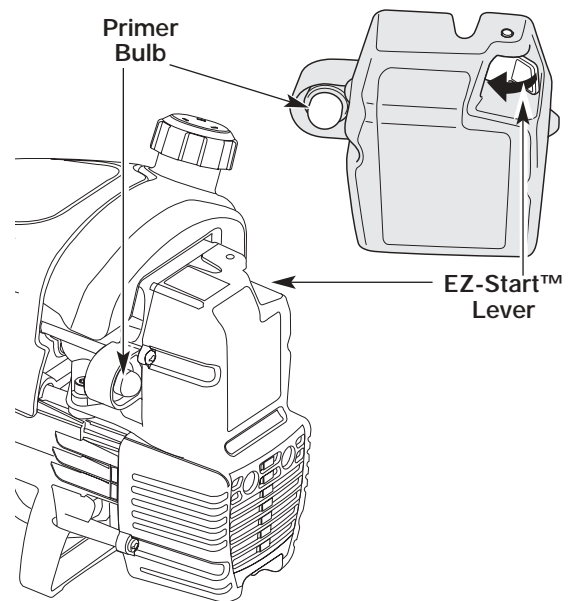

Figure 17
3. Fully press and release the primer bulb 10 times, slowly, until **FUEL IS VISIBLE IN THE PRIMER BULB**. See Figure 17. If you can't see fuel in the bulb, press and release the bulb as many times as it takes before you can see fuel in it.
4. Push the EZ-Start™ Lever to the left until it clicks and locks into place. See Figure 17.
6. When the engine starts, squeeze the throttle control to warm up the engine for 5 to 10 seconds. The EZ-Start™ Lever will click off automatically. See Figure 17.